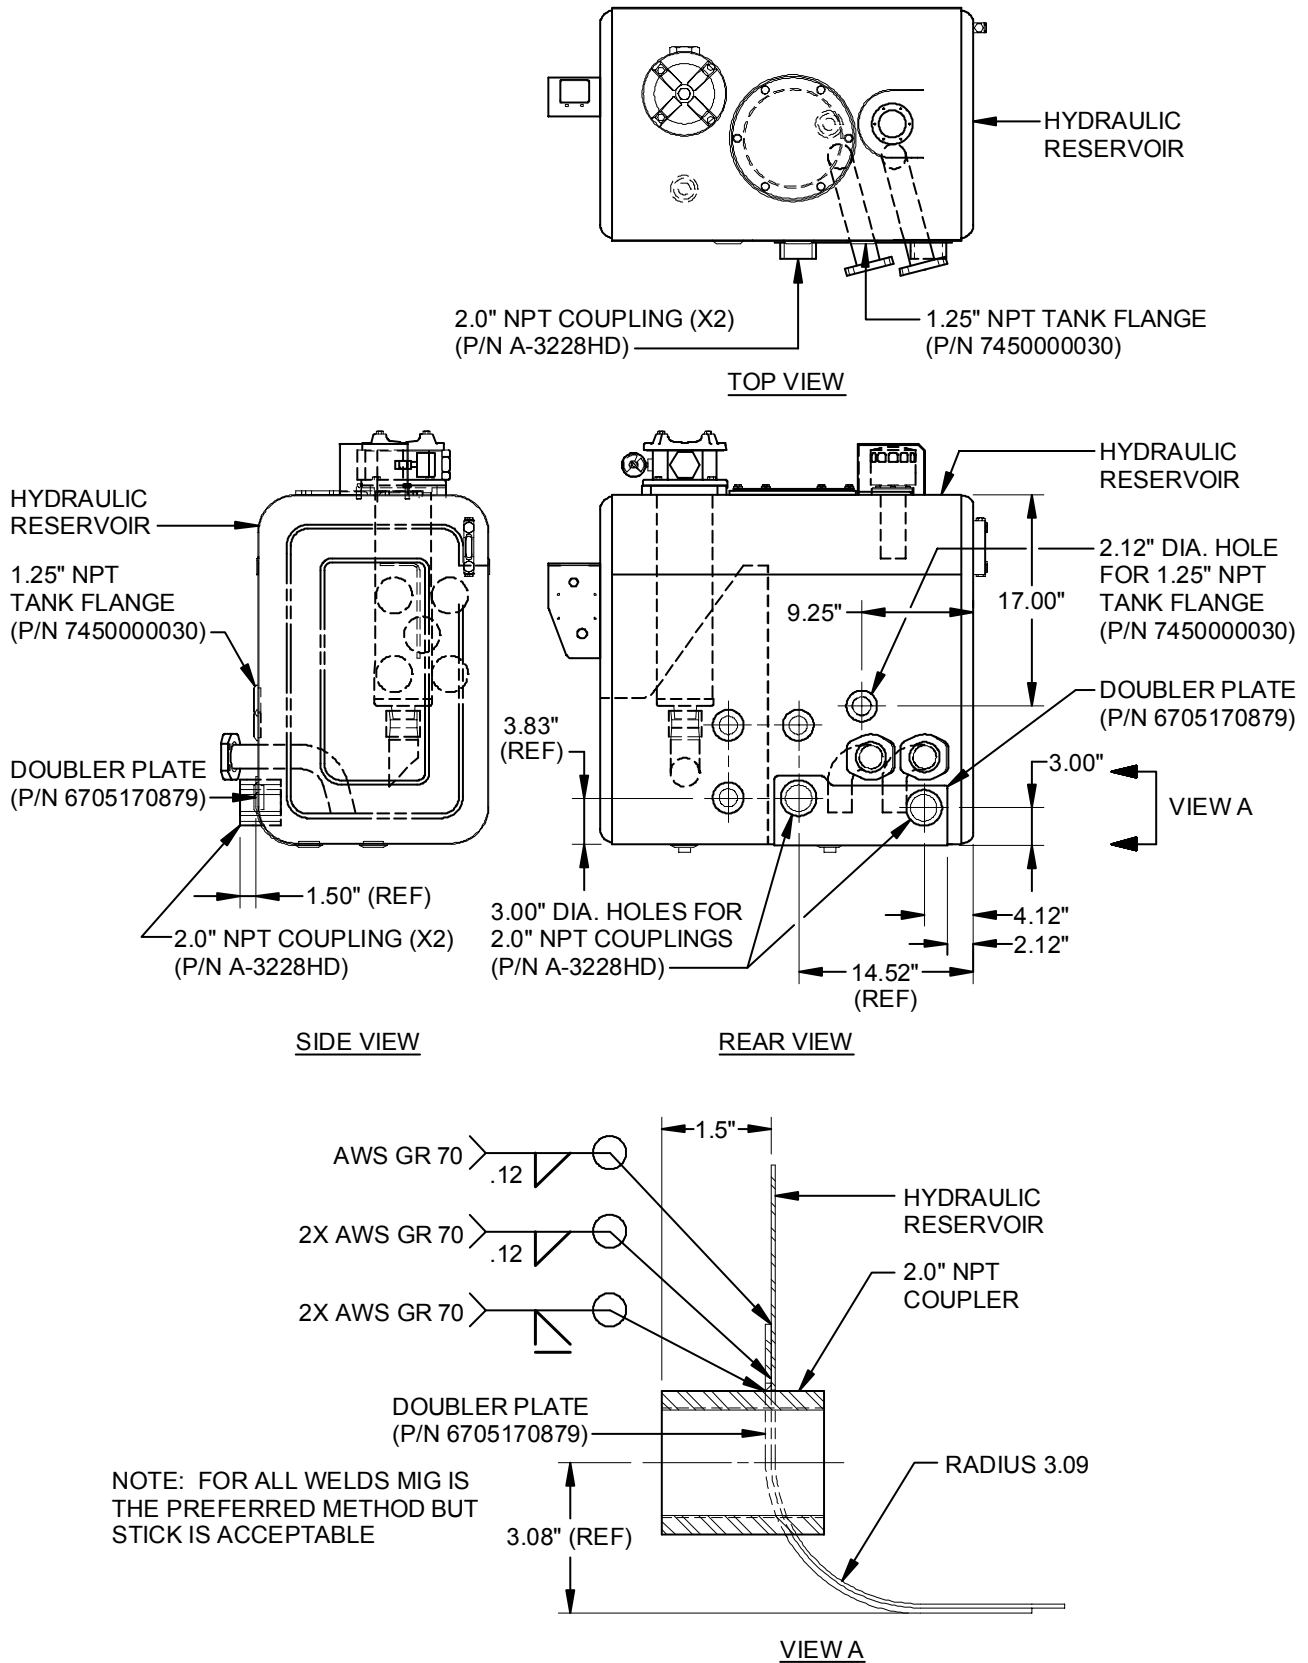
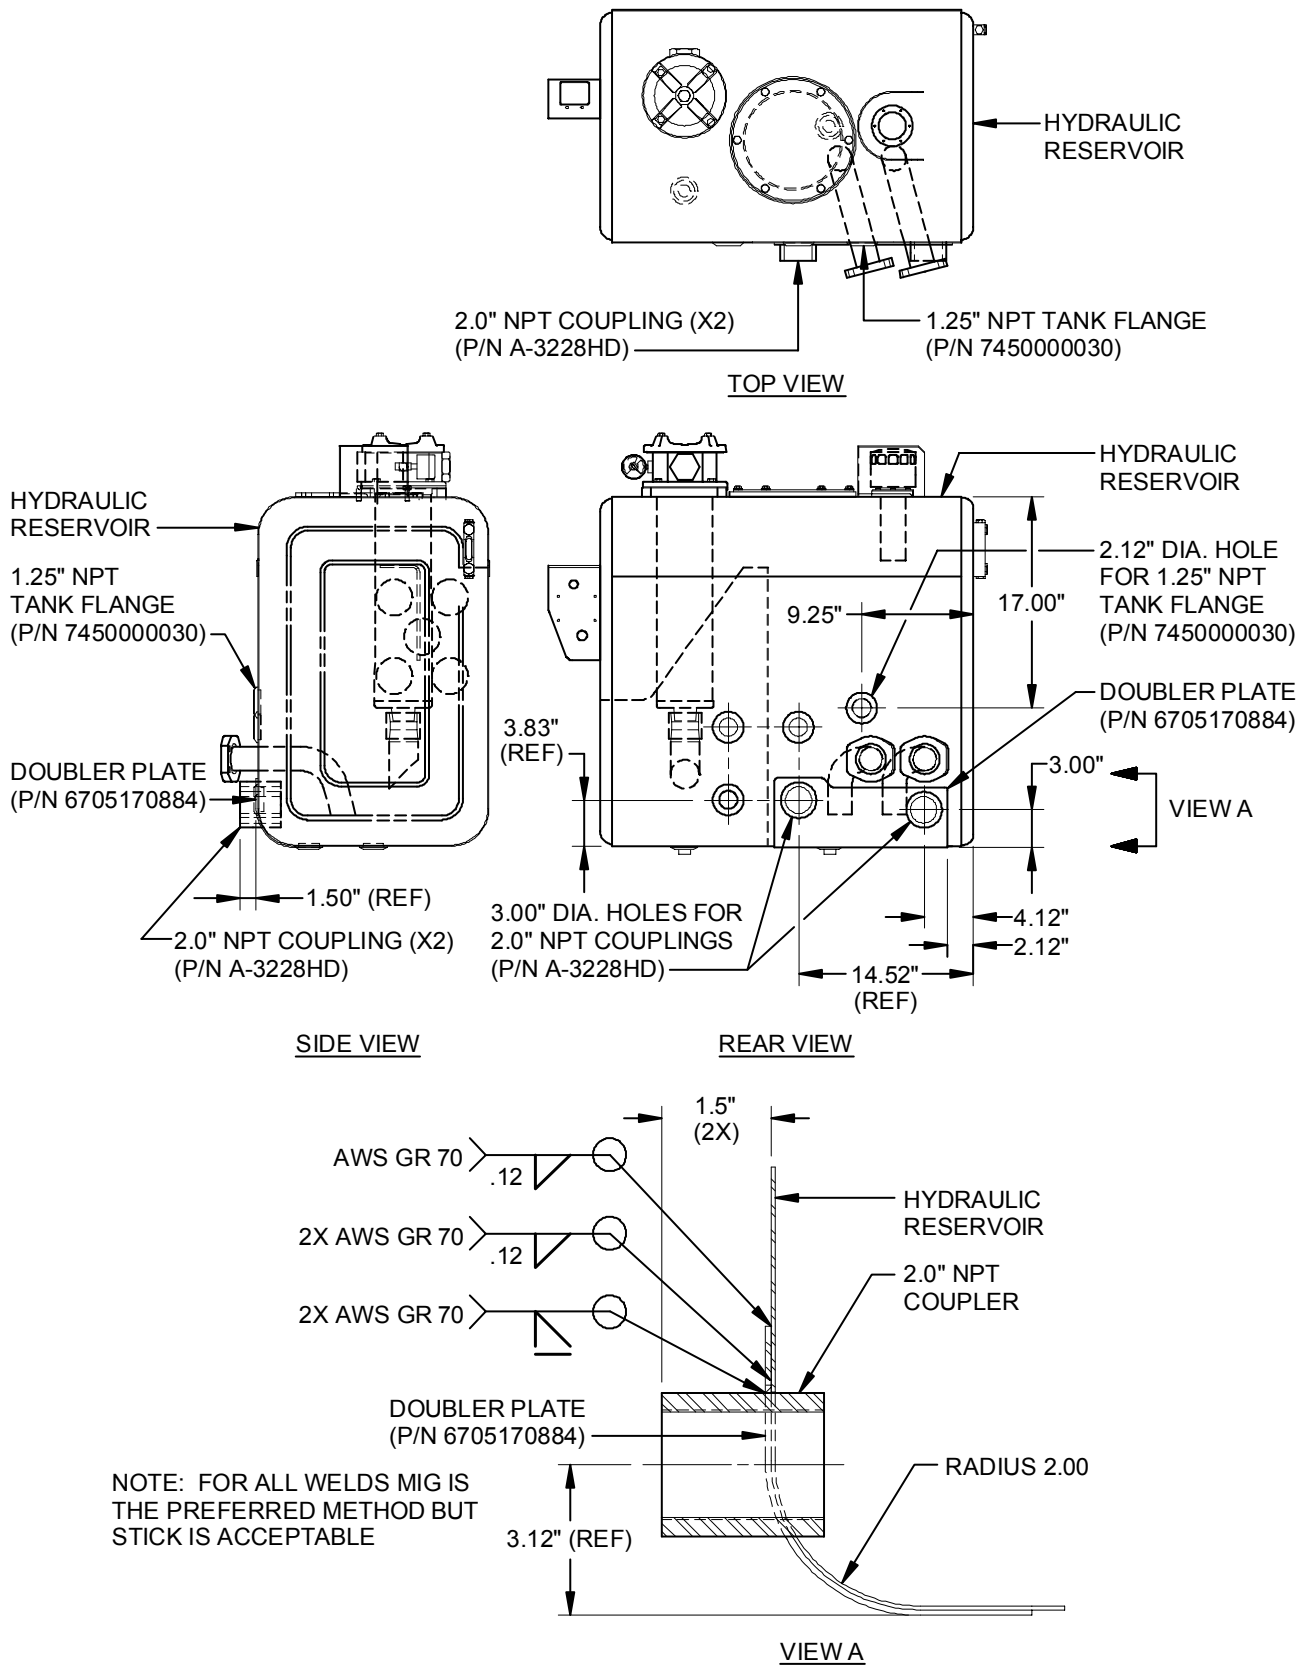

Figure J-5. Hydraulic Reservoir Modification Dimensions – Doubler Plate P/N 6705170879
Figure J-6. Hydraulic Reservoir Modification Dimensions – Doubler Plate P/N 6705170884
- g. Determine which doubler plate - P/N 6705170879 or 6705170884 to use and the proper dimensions for two new holes on hydraulic reservoir by placing each doubler plate on edge of reservoir as shown in Figures J-5 and J-6. The proper doubler plate will fit cleanly on radius of hydraulic reservoir without any gaps between the plate and the hydraulic reservoir.
If doubler plate - P/N 6705170879 is to be used, refer to Figure J-5 for the proper dimensions. If doubler plate - P/N 6705170884 is to be used, refer to Figure J-6.
- h. Mark the centers for the 2.12" and second 3.0" diameter hole in accordance with the appropriate dimensions shown on Figure J-5 or J-6.